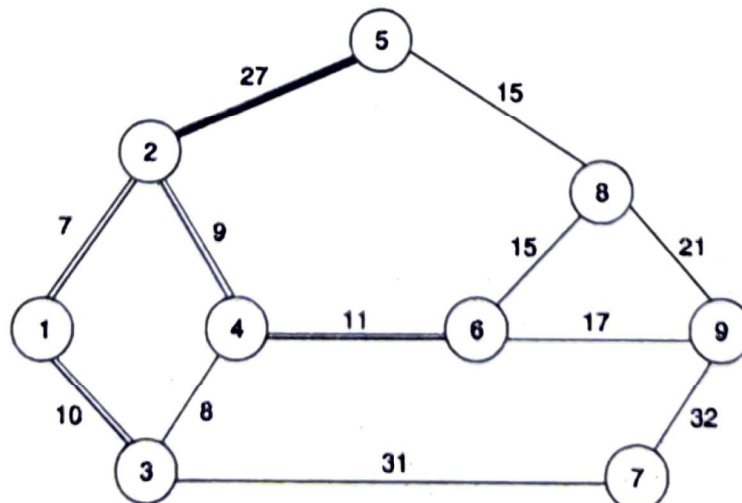

Fig. 5.13 Network showing partial solution.
2.2 The iteration among the preceding iterations in which the distance to L from the starting node is different from X is the Iteration 1. The node selected in that iteration is 2. So, thicken the arc 2-5 as shown in Fig. 5.13.